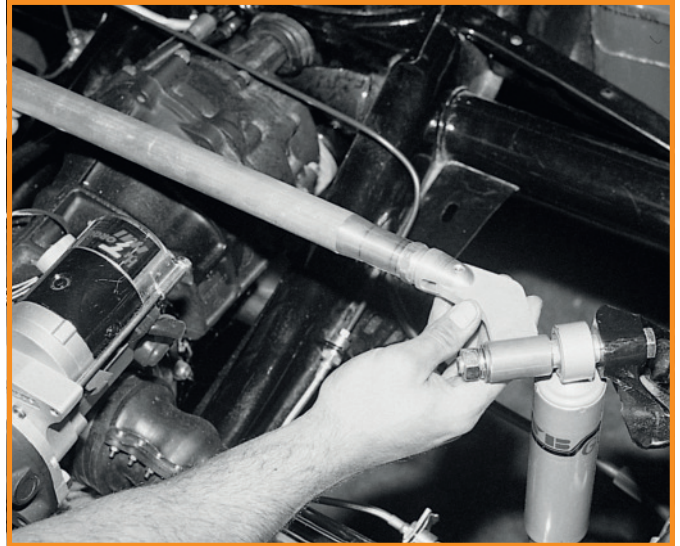

Fig. 3
- The position shown on picture Fig.3 is an example only and is not applicable on all engine/transmission models. Take your time and find the optimum position for your application.